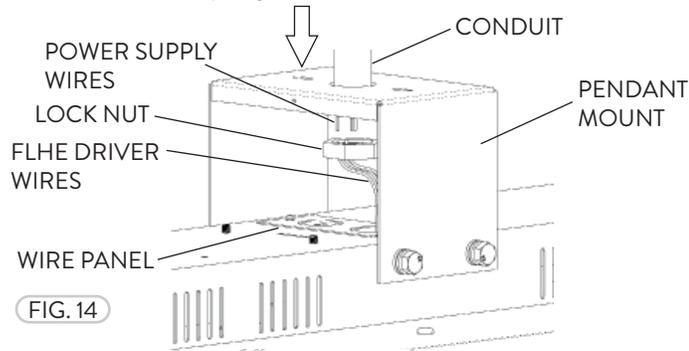
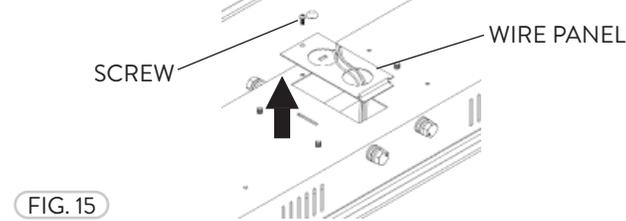

FIG. 14
FIG. 15
- 2 Once the Pendant Mount is installed onto the fixture, fasten a Conduit to the Mount from the hole on the top side using a Lock Nut that matches the thread on the Conduit. Run the AC Power Supply Cable down the Conduit and join the wires to the FLHE Driver (Fig. 14). The small FLHE Wire Panel can be removed by removing one screw if necessary (Fig. 15).